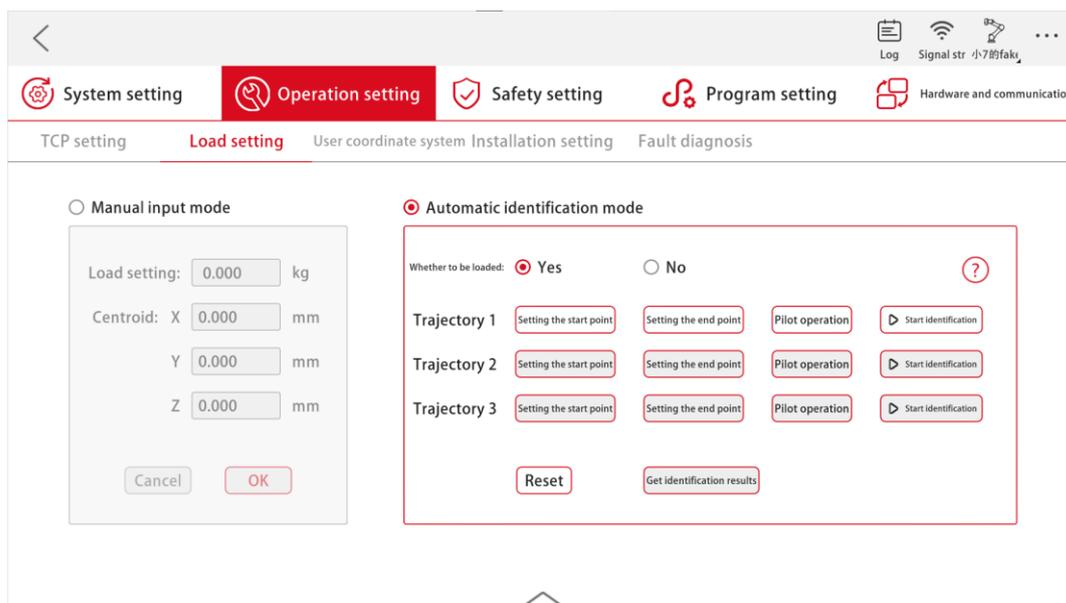

Figure 3-11 Automatic Load Recognition Setting Interface
(2) Automatic identification mode (as shown in Figure 3-11):